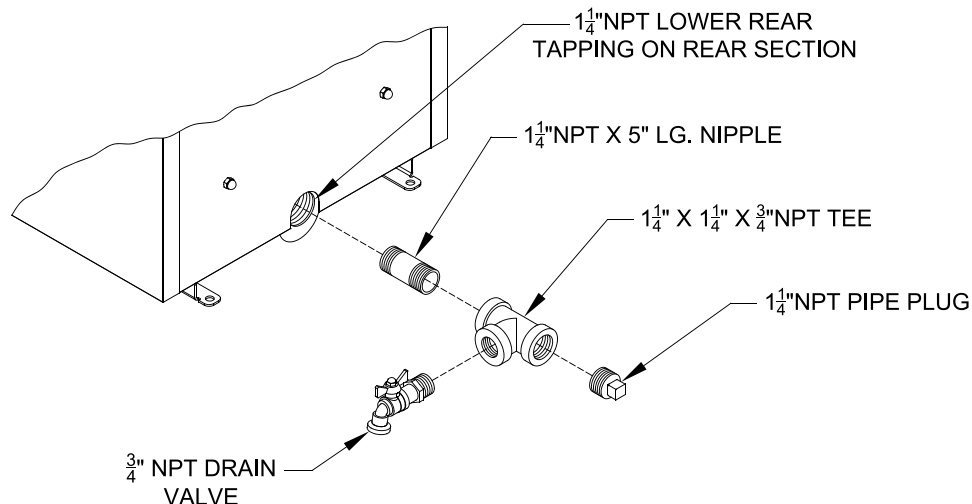

Figure 8: Piping Arrangement for Drain Valve and Indirect Water Heating Return
4. Install drain valve, see Figure 8.